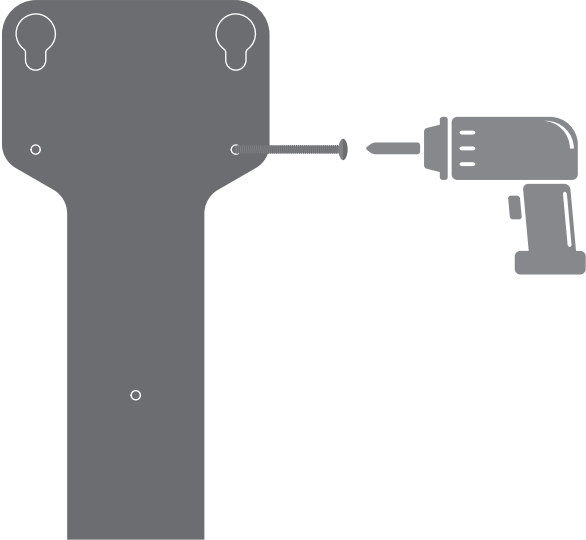

Fig. 4-7
5. Fix the mounting template to the wall with the expansion screws. (See Fig. 4-7)